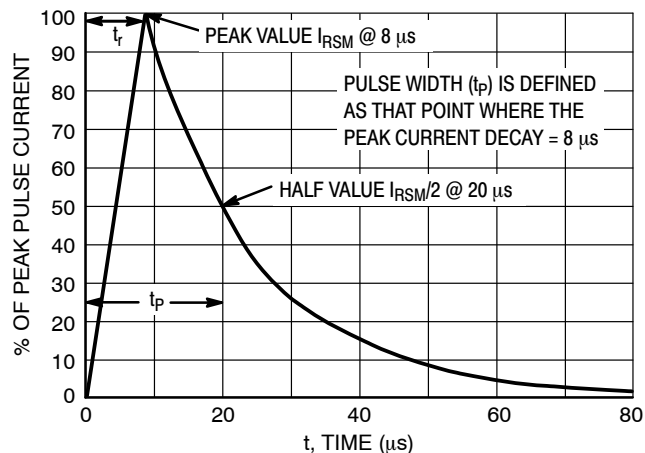

Figure 5. 8 X 20 μ s Pulse Waveform
- V_C measured using pulse waveform in Figure 5.